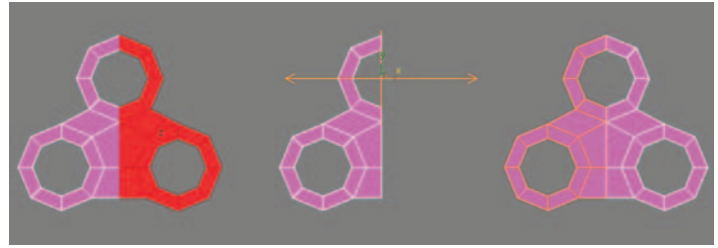

Figure 5.6 Polygon selection to delete, resulting mesh, and mesh with Symmetry modifier and Show End Result toggled.
7. As we begin to shift-drag edges in the next steps, it is important to keep in mind how many existing edges we have available to create new polygons. To speed up the modeling process, delete one-half of the mesh and use the Symmetry modifier. This will allow you to make modifications to half of the model and have them reflected to the other symmetric side. For many of the following steps I left Symmetry toggled off; you can toggle it on and off as you feel necessary (Figure 5.6).